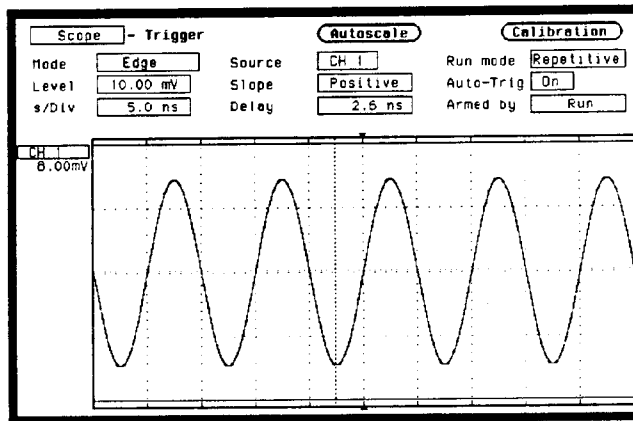

Figure 3-60. Centering the Waveform
- Press **RUN** and use the **Level** and **Delay** to center the rising edge of the waveform as close as possible to center screen as in figure 3-60. It may be necessary to use **Offset** to center the signal symmetrically about the horizontal axis.